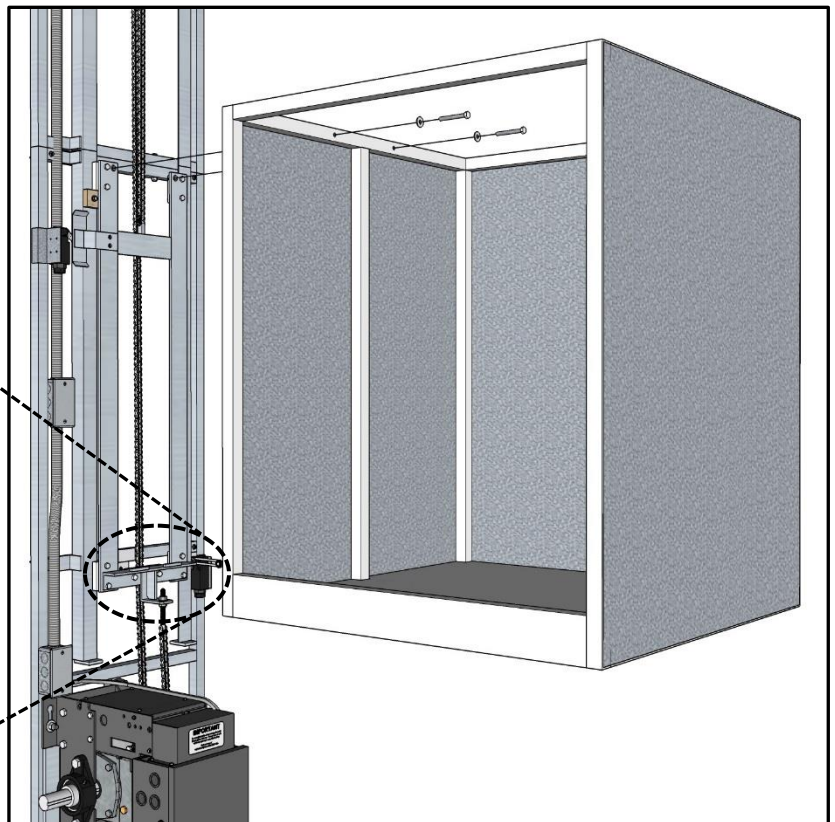

Figure 31
- 2** Use provided bolts ($\frac{1}{4}$ "-20 x $1\frac{3}{4}$ ") & washers to secure dumbwaiter car to trolley. (see **Figure 31**)